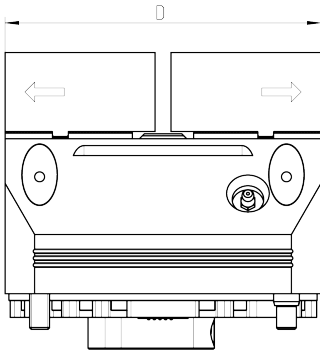

Fig. 3: Clamping force block "Open" – Teach position 1, I.D. clamping
- Use a suitable measuring device (e.g. measuring caliper) to determine the dimension D in units of (mm), see Figure 3, and write this as the new value of the acyclic parameter "Teach position 1 – jaw (measured jaw opening width)" at index 101.